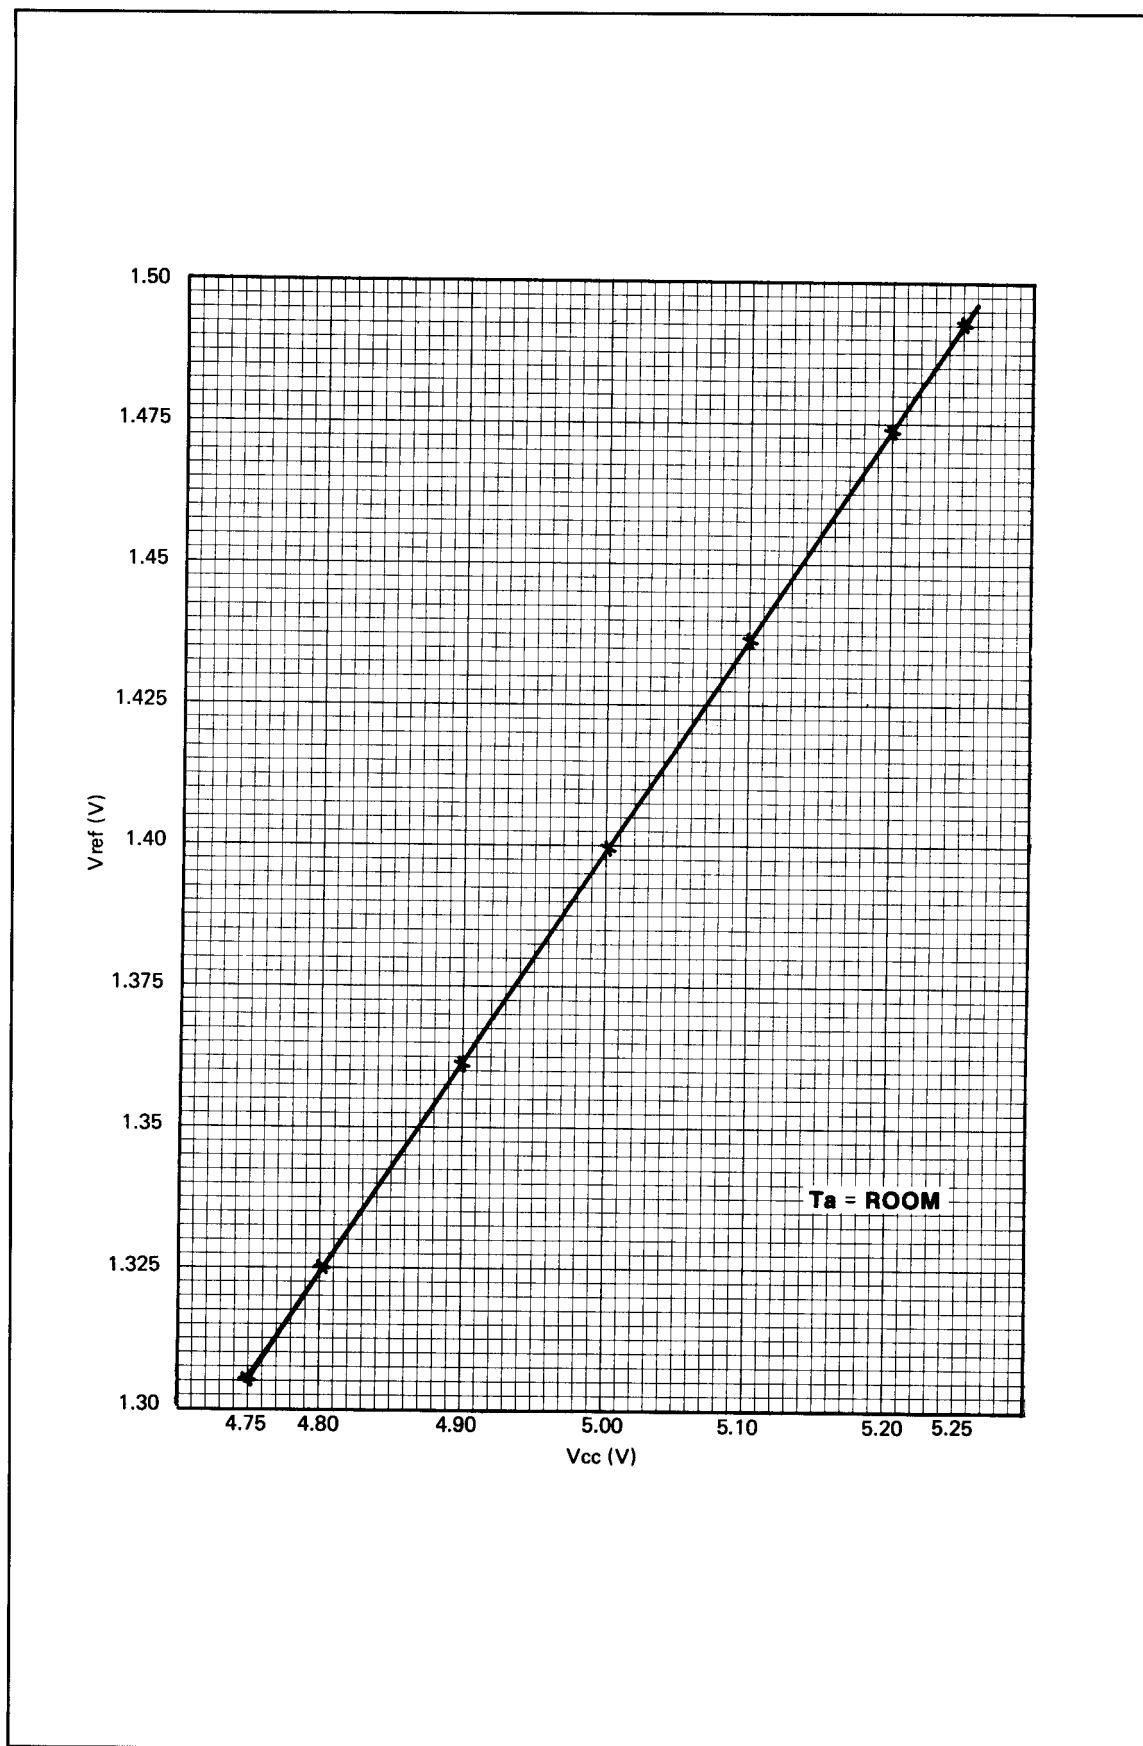

Figure 5-1. Data Probe V_{cc} — V_{ref} Graph
- c. Connect the positive test lead to U1(5). Compare this voltage with the V_{ref} voltage corresponding to the V_{CC} (step b) on *Figure 5-1*.
Figure 5-1 is a graph relating the U1 pin 5 voltage to U1 pin 7 voltage.